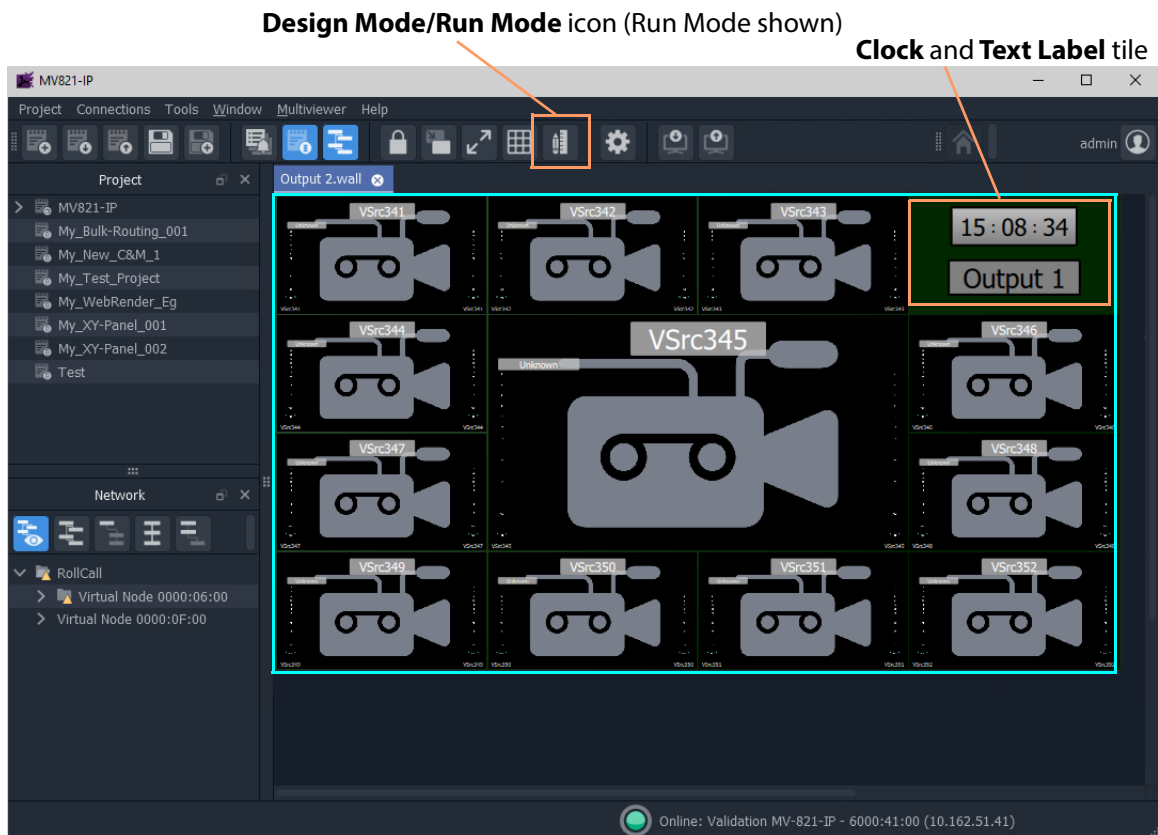

Fig. 7-20: Example Wall Open in Wall Editor in Run Mode
Figure 7-20 shows the GV Orbit **Wall Editor** in **Run Mode**. To perform edits to the multiviewer video wall, the **Wall Editor** must be in **Design Mode**.
- 2 Click the **Design Mode** icon in the main menu. (See Figure 7-20.)